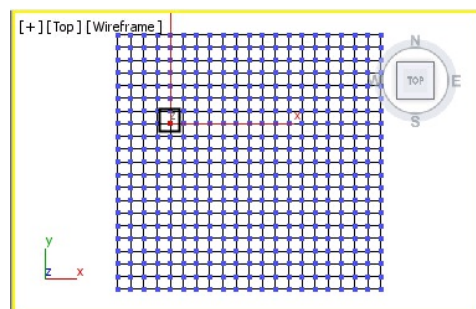
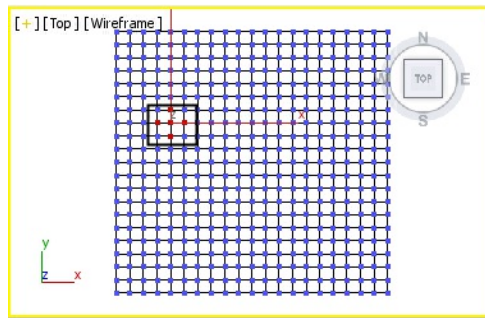

Figure 11-84 A vertex selected in the Top viewport
Figure 11-85 The vertices selected after choosing the **Grow** button
5. In the Top viewport, select a vertex, as shown in Figure 11-84. Now, in the **Selection** rollout, choose the **Grow** button twice to select the vertices, as shown in Figure 11-85.